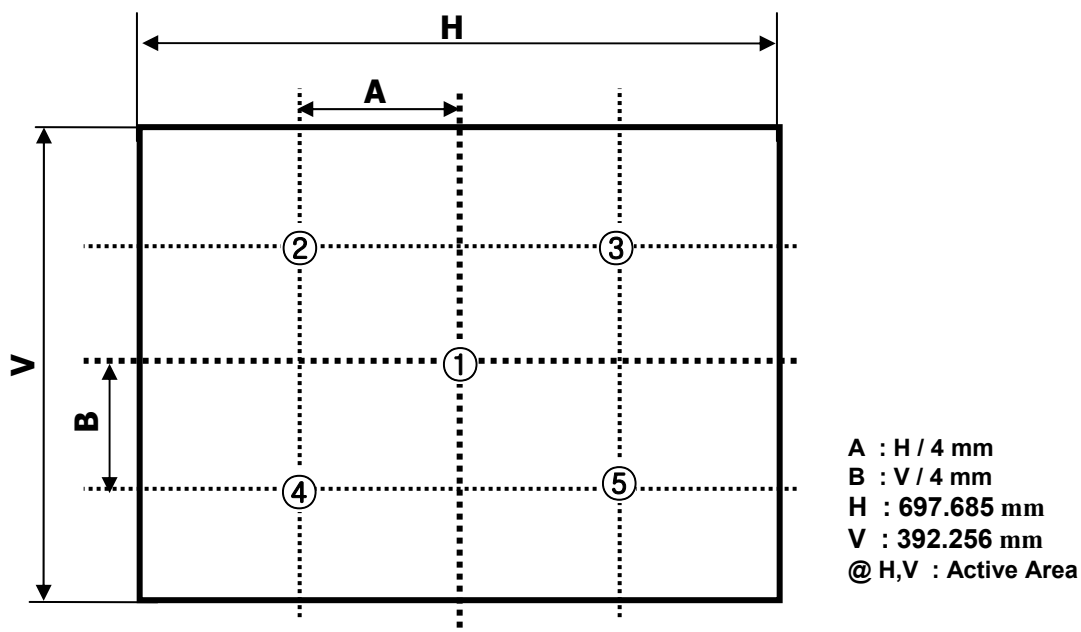

FIG. 2 The Position of Points for Luminance Measure
2. Surface Luminance( $L_{WH}$ ) is the luminance value at center 1-point across the LCD surface 50cm from the surface with all pixels displaying white. For more information see the FIG. 2.
For more information, see the FIG. 2.